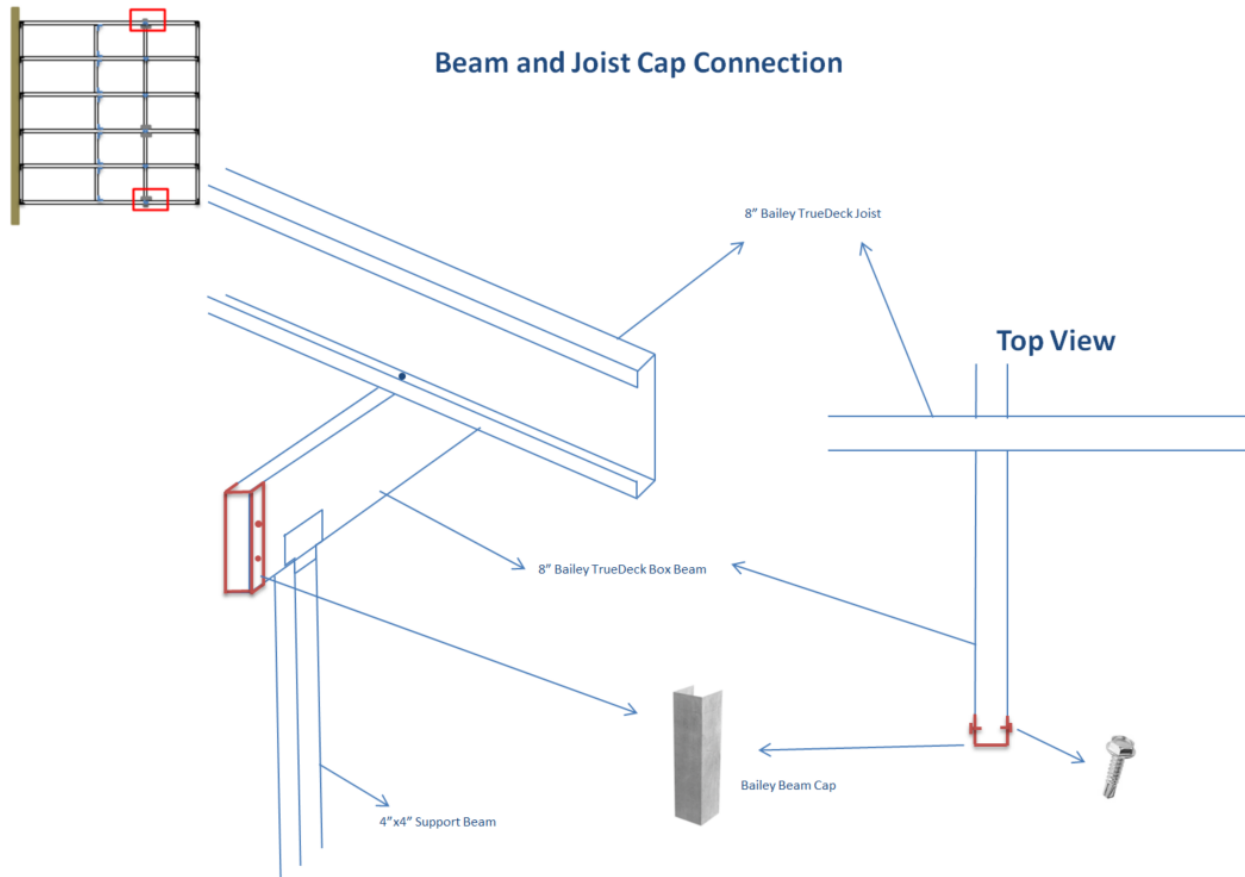

Figure 25
8. **Attaching beam caps:** Box beam are 8" long "U" shaped channels. Attach beam caps using screws to cover the ends of the box beam. This will help in keeping the insects out. Refer to Figure 25 for box beam cap connection details.